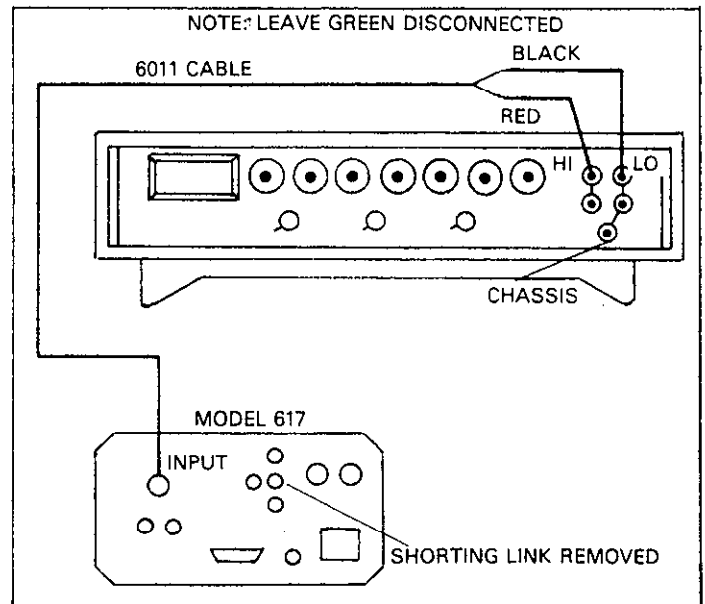

Figure 5-5. Connections for Volts Verification
3. Connect the signal source to the instrument, as shown in Figure 5-5. Set the calibrator output to 190mV, as indicated in Table 5-3.